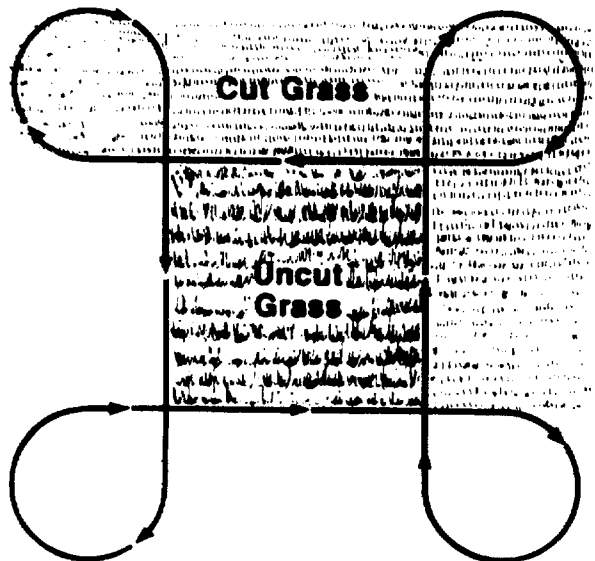

Figure 27
4. Follow the mowing procedure shown in Figure 27.